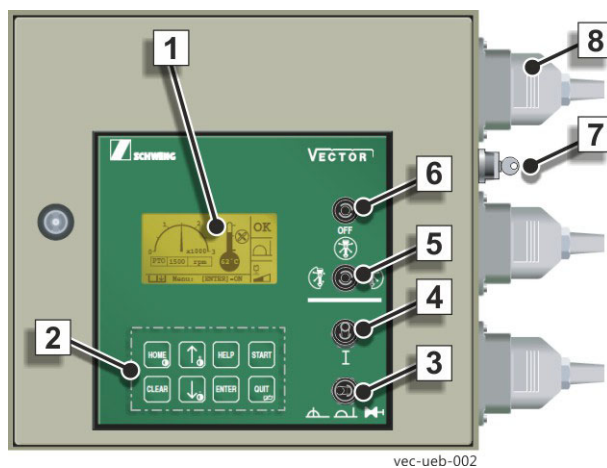

Fig. 368 Switch cabinet of the Vector control system
- Safety fuses in the switch cabinet or control cabinet of the concrete pump, see **(Fig. 368)**, **(Fig. 369)** and **(Fig. 370)**.